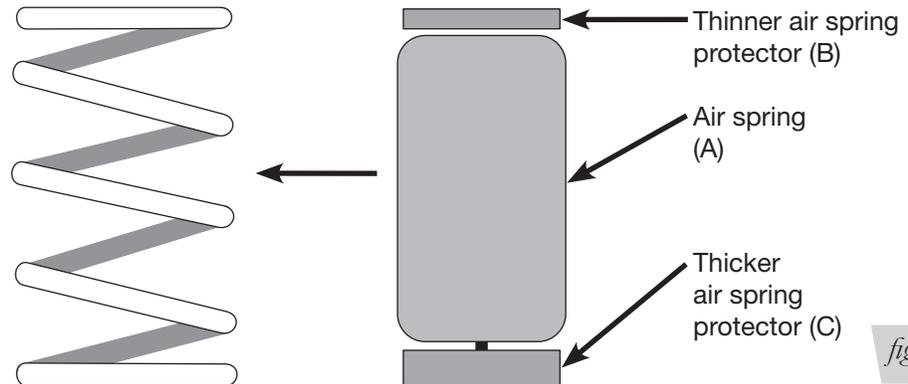

fig. C.4
1. Place the air spring and the top and bottom protectors in the coil spring (Fig. C.4). The top protector is the thinner one.